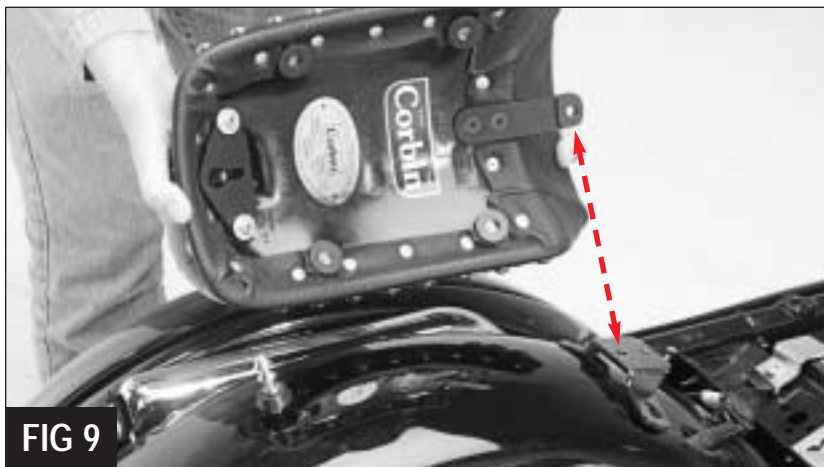

FIG 9
19. The rear pillion seat installs by screwing the supplied #P10114 latch pin and #P00545 nylon cap into the rear thread nut of the rear fender. Then slide the key way bracket on the seat into the latch pin of the fender and secure the front bracket to the Corbin front seat bracket using the supplied 5/16 x 18 x 3/4 Hex bolt and washer. See Figure 9.